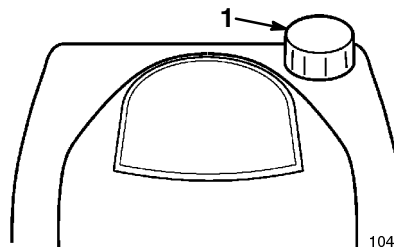

Figure 9
6. Clean around the fuel tank cap (Fig. 9).